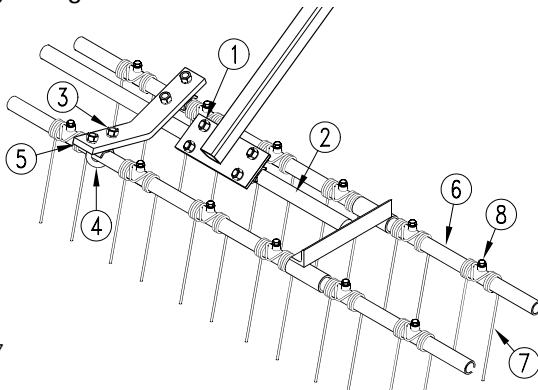

Figure 3-6
To adjust the frame, refer to Figure 3-6. Loosen the four hex nuts (1) on the u-bolts and rotate the frame tube (2) as necessary.
To adjust the tines, refer to Figure 3-6. Loosen the four 1/2-inch hex nuts (3) on the 1/2-inch u-bolts (4) on the support bar (5). Rotate tine tubes (6) so the tines (7) are against the stop bushings (8) and are angled back as necessary. Retighten hex nuts on u-bolts.